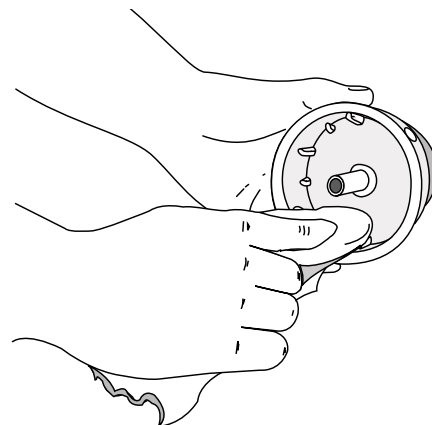

Fig. 23
4. Use a clean cloth to clean the inner reel, spring, shaft, and inner surface of the outer spool (Fig. 23).
4. Use a clean cloth to clean the spring, shaft, and inner surface of the outer spool (Fig. 23, Pg. 17).